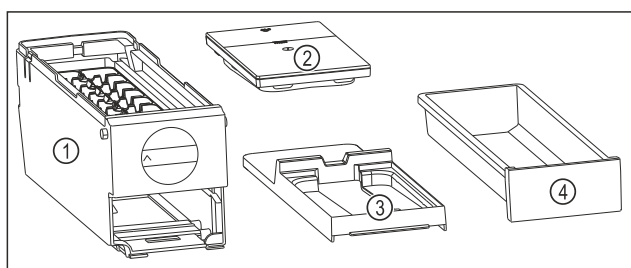

Fig. 90 Components of the EasyTwist-Ice
- ▷ EasyTwist-Ice is dismantled into four parts. (see Fig. 90)
- ▶ Only dismantle the EasyTwist-Ice into the components shown. (see Fig. 90)
- ▶ Clean the EasyTwist-Ice body Fig. 90 (1) as a whole.